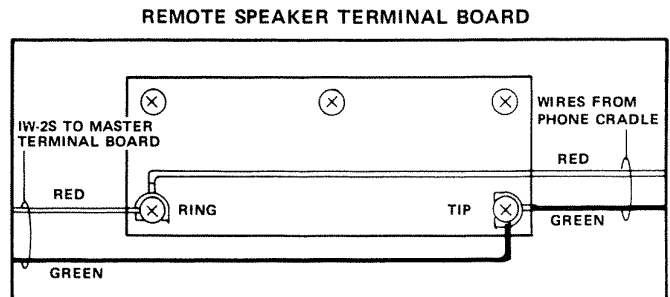

FIGURE 9
4. See Figure 9 for remote speaker phone wiring.